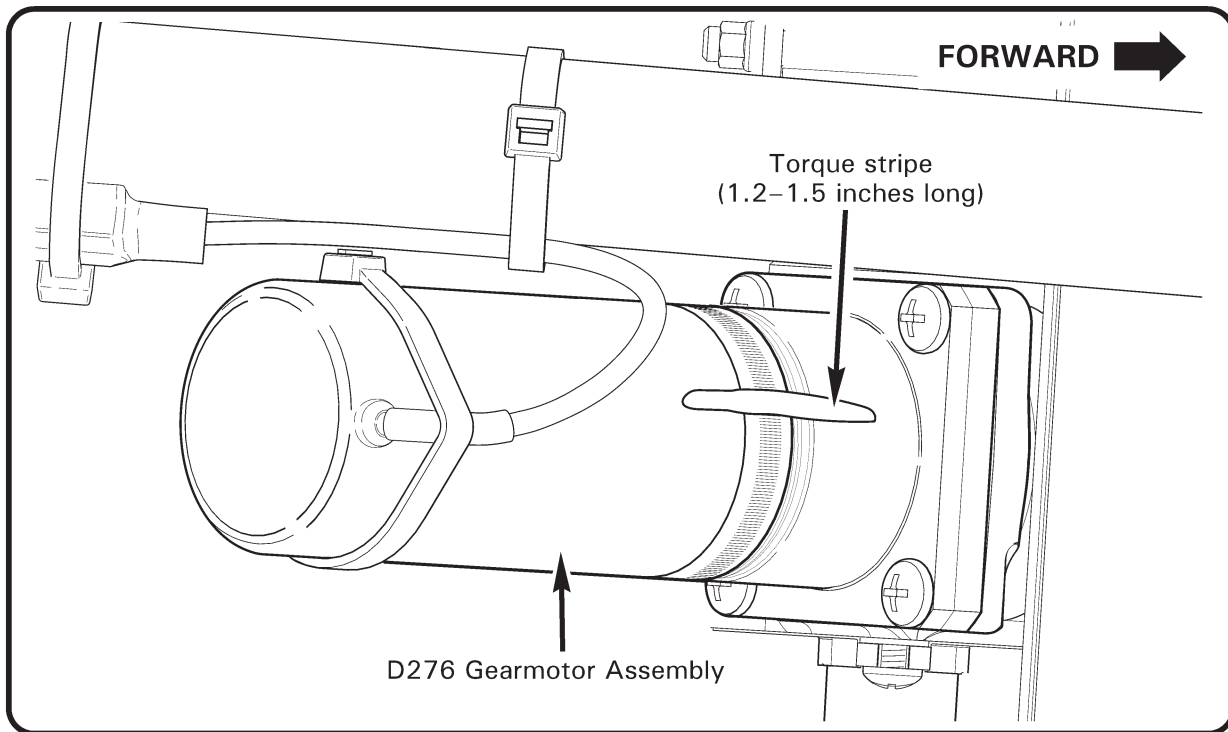

FIGURE 2-6A GEARMOTOR ASSEMBLY TORQUE STRIPE
**Gearmotor Assembly Torque Stripe:** Refer to Figure 2-6A. Verify torque stripe is not broken or missing. Renew deteriorated torque stripe as required. \_\_\_\_\_
**7. Open Cowling Doors (7A), Remove Tailcone Cowling (7B) & Mast Fairing (9) (cont'd)**